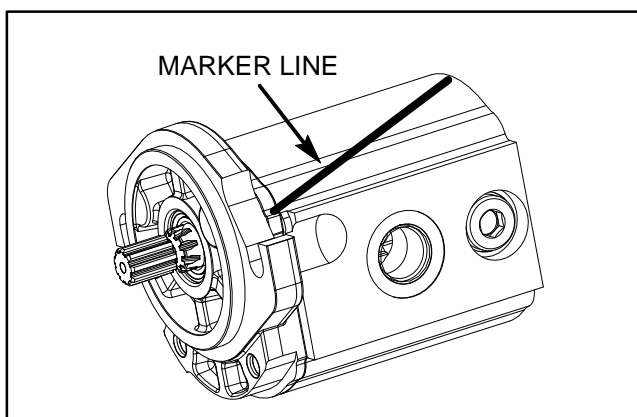

Figure 69
2. Use a marker to make a **diagonal** line across the front flange and body for assembly purposes (Fig. 69).